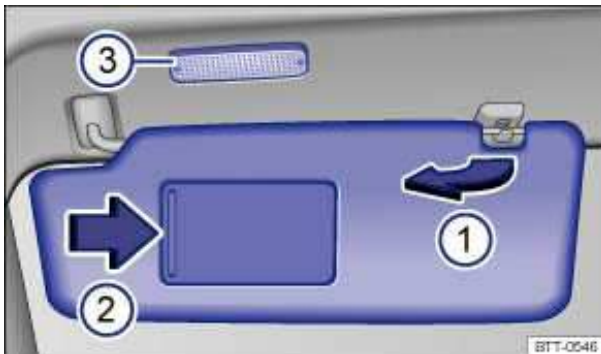

Fig. 75 Sun visor.
- Lift it out of the retaining clip ⇒ fig. 75 \(1\) and swivel it over toward the door.